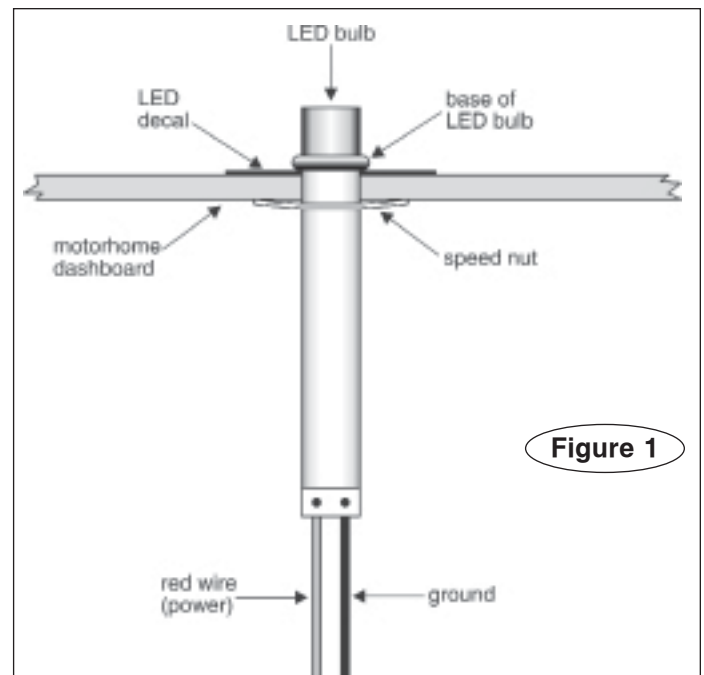

Figure 1
5. Center the LED decal (Figure 1) over the hole, and press it down. Or, you may choose to omit the decal, depending on your preferences.
6. From the top of the dashboard, slide the LED through the hole, wires first, until the base of the bulb (Figure 1) is flush to the top of the dash.